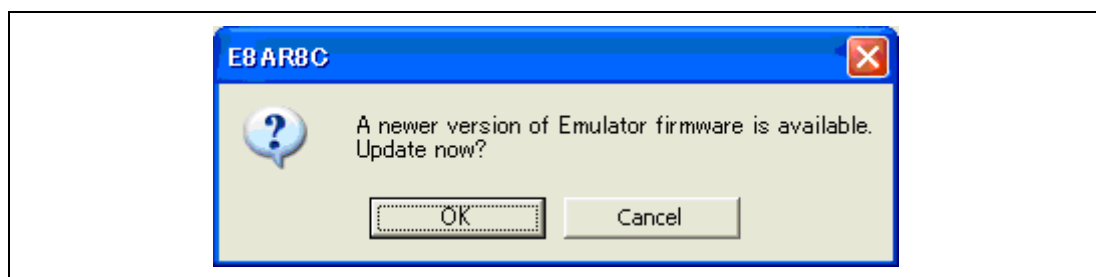

Figure 3.15 Dialog Box for confirming the E8a firmware download
8. When the version of the E8a firmware downloaded into the emulator is old, the message box shown in Figure 3.15 will be displayed.